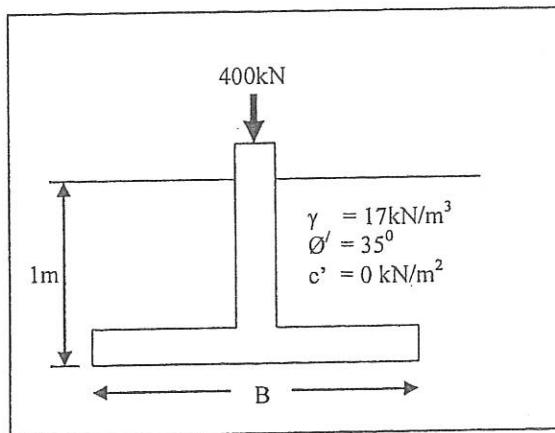

Figure 2c / Rajah 2c
- (c) A square footing is shown in Figure 2c. The footing will carry a gross mass of 400 kN. Using a factor of safety of 3, determine the size of the footing (B).